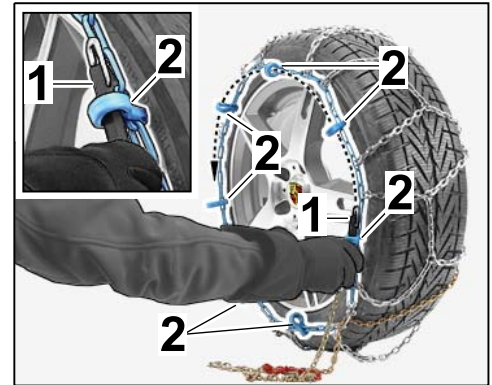

Figure 10
2.3.2 Feed bungee cord with hook through the plastic eyelet (⇒ *Figure 10*).
2.3.3 Feed the rest of the tensioning chain in a circle (⇒ *Figure 10-arrow*) over the complete wheel through the remaining plastic eyelets.